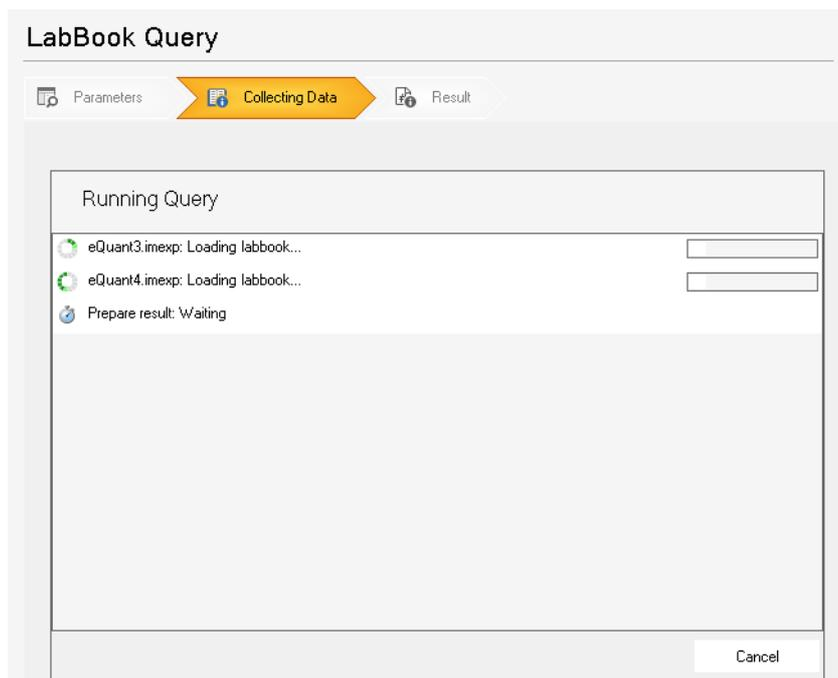

Figure 4-48. LabBook Query page collecting data in Qtegra
- Click **run query** to start the query. Qtegra collects the data, see Figure 4-48.